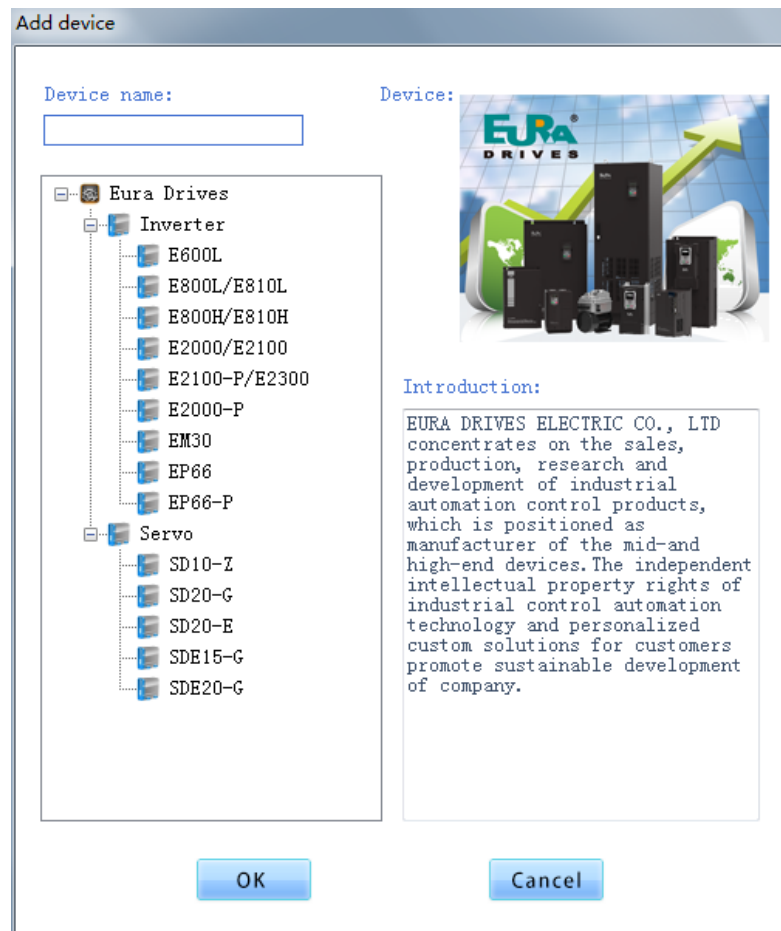

Fig 3-3 New Project Interface
- ① Minimize button ② Close button ③ Toolbar ④ Feature bar shortcut
⑤ Program main function zone
3. Create new project, user clicks [Project] → [New Project], enter project name firstly, popup new project window after [Save](Fig 3-3);